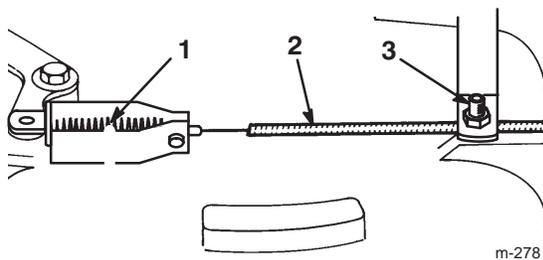

Figure 33
3. Loosen the cable clamp screw until the brake cable conduit slides (Fig. 33).